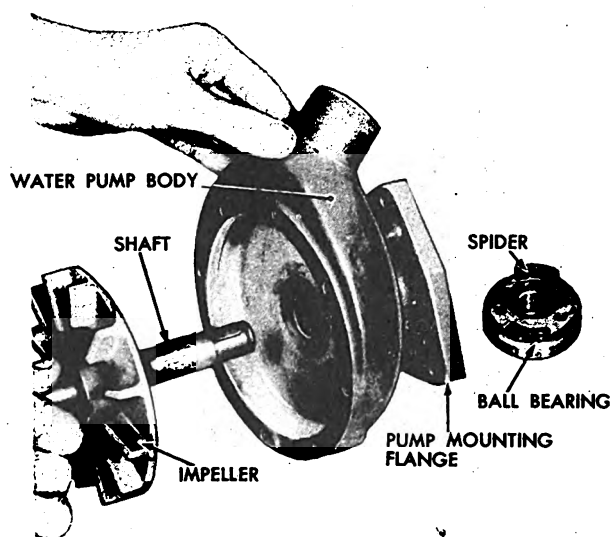

Fig. 200. Removing Impeller from Housing
(4) Tap the cover from the housing with a lead or soft hammer, tapping lightly on the water inlet boss.
(5) Pull the impeller from the shaft and water pump housing as shown in Figure 200.